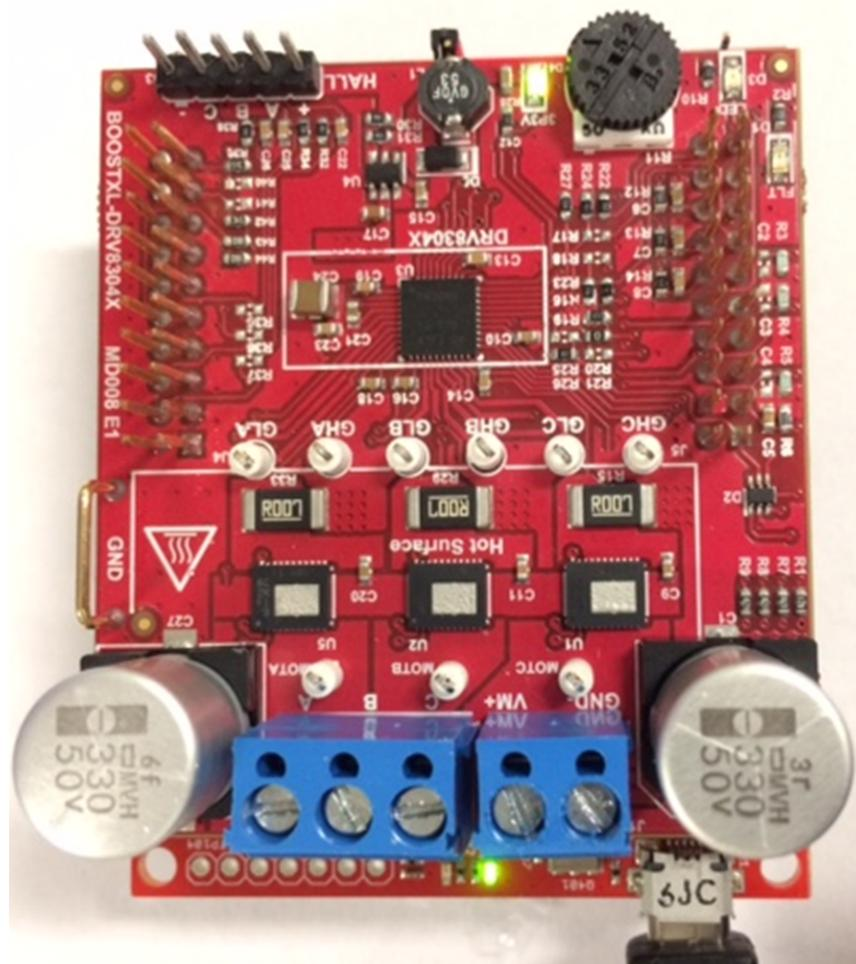

Figure 5. EVM Showing the Position of LEDs
- Step 6. Confirm that the 3P3V LED is turned on and the nFAULT LED turned off after powering the device (see Figure 5).